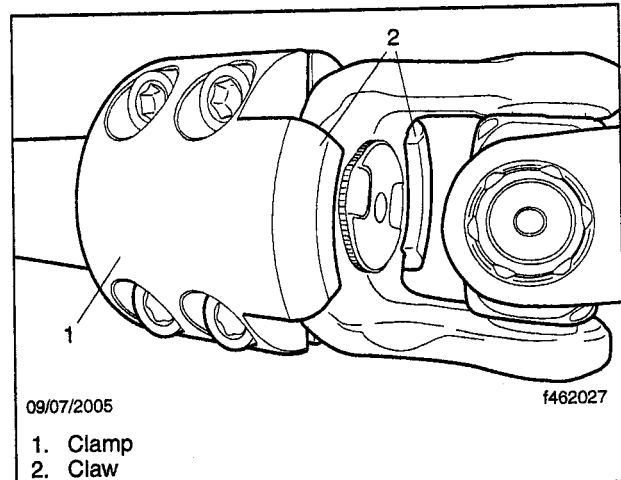

Fig. 5, Clamp Installation on the Steering Shaft (FCCC XC Motorhome Chassis Installation Shown)
4. On the lower-steering-shaft end nearest the steering gear, install a clamp from a kit with the claws extending over the U-joint yoke. See **Fig. 5**.
7. On the upper-steering-shaft end nearest the bevel box, install the clamp from a kit so that the claws extend over the U-joint yoke. See **Fig. 5**.